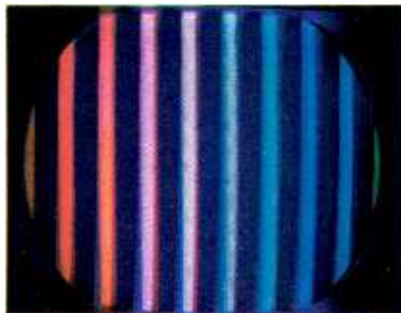

Fig. 2. Normal pattern with keyed-rainbow generator connected to a receiver.
7. Check the range of the tint control; if it's still improper, set the tint control to the center of its range and adjust A1 (the burst transformer) until the fourth bar is magenta in color. The proper presentation of the keyed rainbow is shown in Fig. 2.